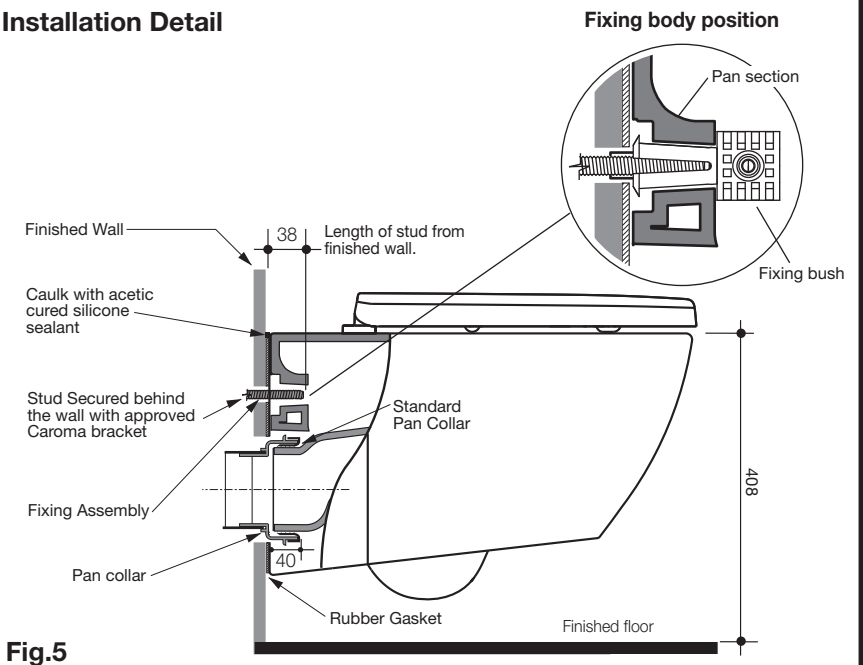

Fig.5
- 3- Set the length of the fixing studs 38mm from the finished wall surface, as detailed in **Fig. 5**.